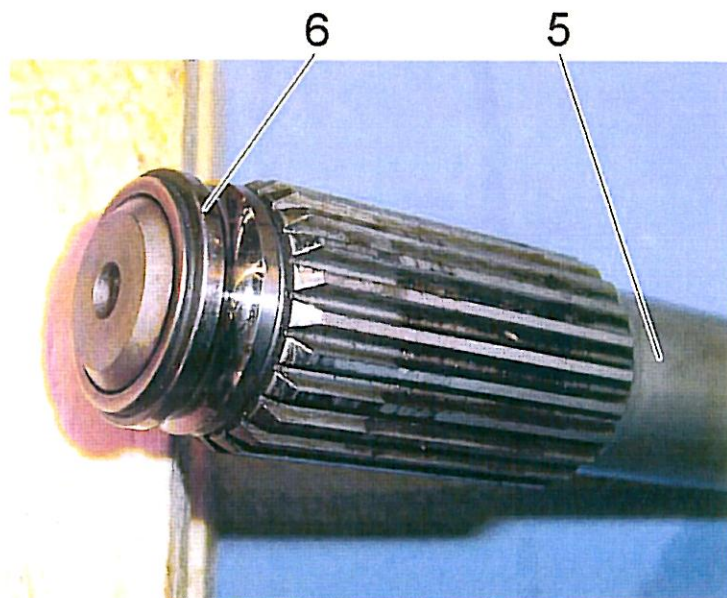

Fig. 05.0.5
6. Remove the clutch shaft (item 5) and the clutch shaft bearing (item 6). Pay attention to cleanliness! Discard the clutch shaft (item 5) and the clutch shaft bearing (item 6) and replace them with new ones during re-assembly.
7. Fit the new clutch shaft bearing (item 6) to the clutch shaft (item 5). See Fig. 05.0.5.